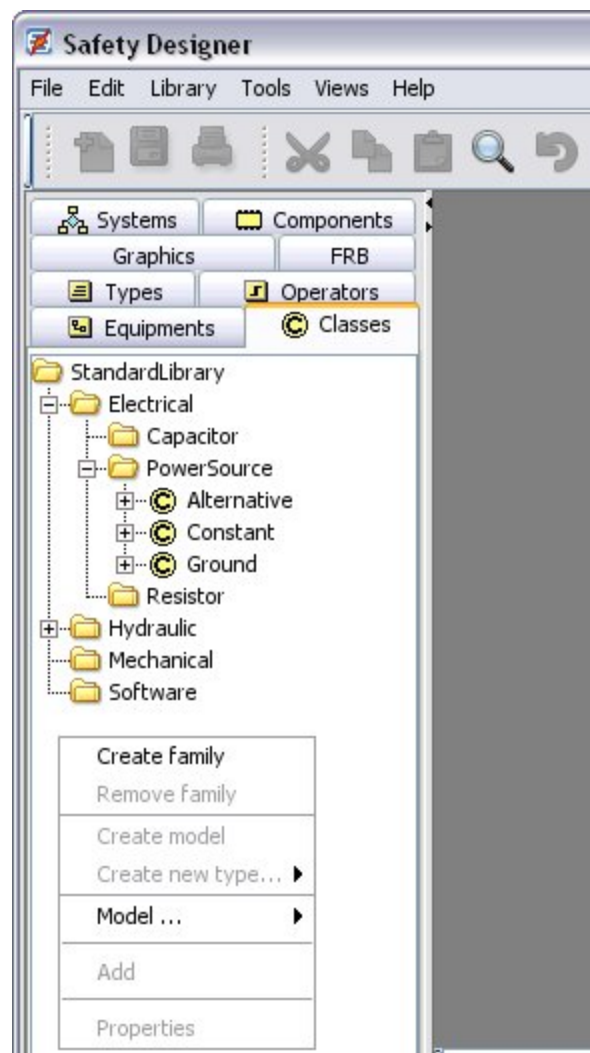

Figure 11: Model edition and organization contextual menu
2. Right-click in an empty area (no existing family must be selected); the Figure 11: Model edition and organization contextual menu opens
3. Right click on the existing family to display the Figure 11: Model edition and organization contextual menu